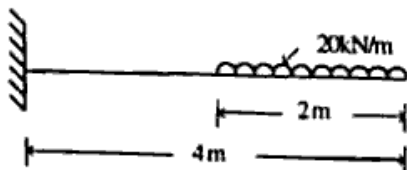

Figure 3
- d) A cantilever 75mm wide and 200mm deep is loaded as shown in figure 3. Find the slope and deflection at free end. Take $E = 200\text{GPa}$. 8